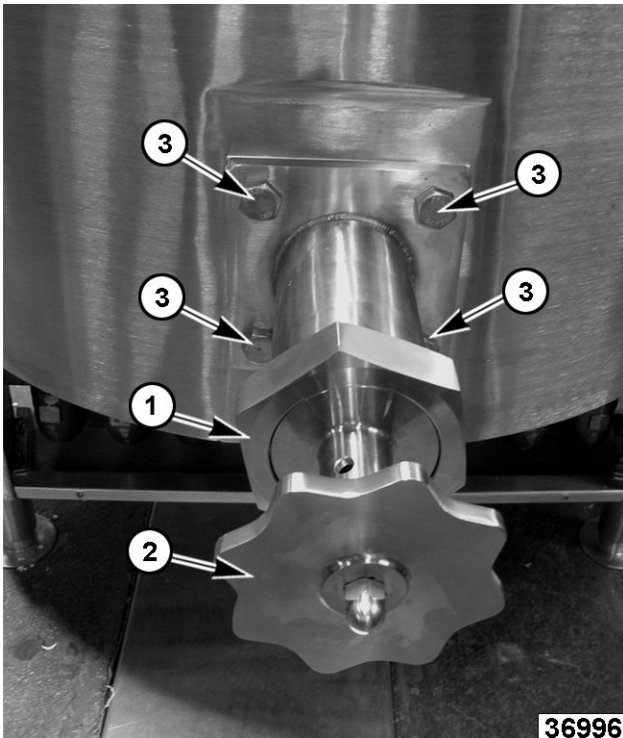

Fig. 9
1. Loosen nut (1, Fig. 9) to remove valve stem (2, Fig. 9).
2. Remove mounting bolts (3, Fig. 9).